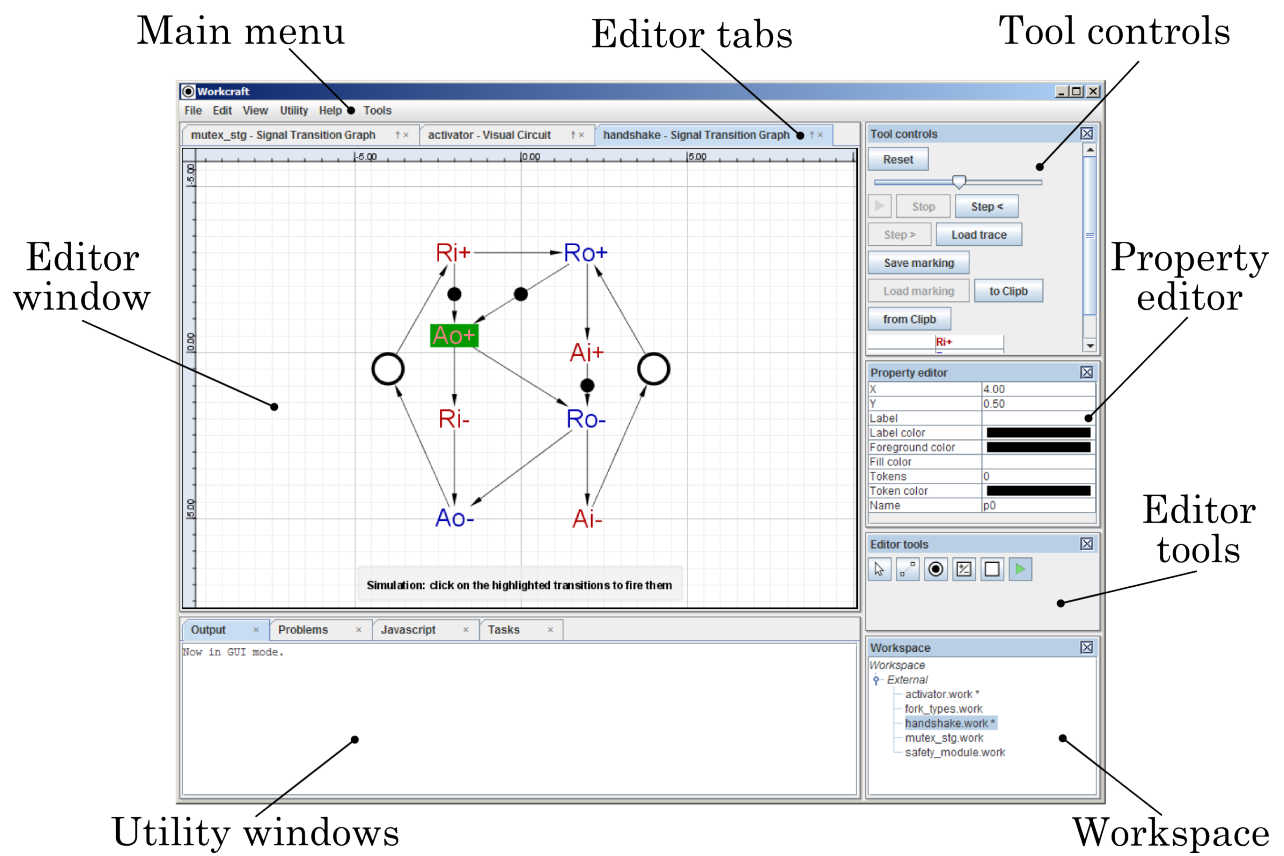

Figure 1: Workcraft interface
The interface of the program is shown in Figure 1.
- *Editor tools* panel allows to select mode of operation (as shown in Figure 1: Selection tool, Connection tool,). It will vary from one model to another providing different types of objects that can be created.